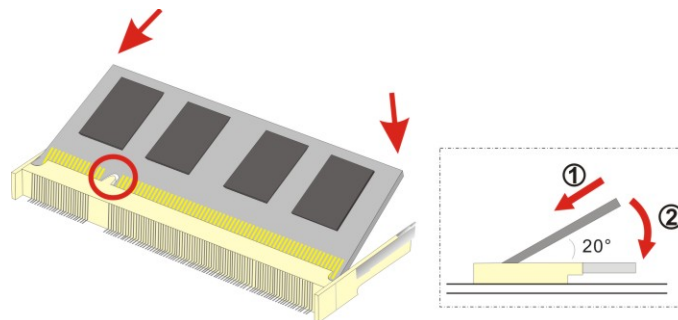

Figure 6-4: SO-DIMM Installation
- Step 7:** Insert the SO-DIMM. Push the SO-DIMM chip into the socket at an angle (Figure 6-4).